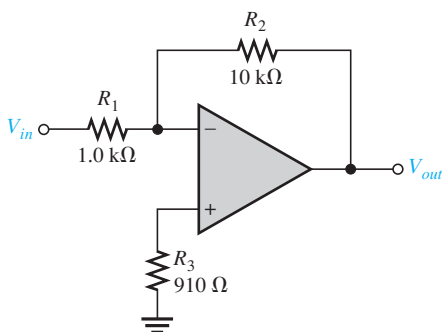

FIGURE 6-51
25. Determine the most likely fault(s) for each of the following symptoms in Figure 6-51 with a 100 mV signal applied.
26. Determine the effect on the output if the circuit in Figure 6-51 has the following fault (one fault at a time).